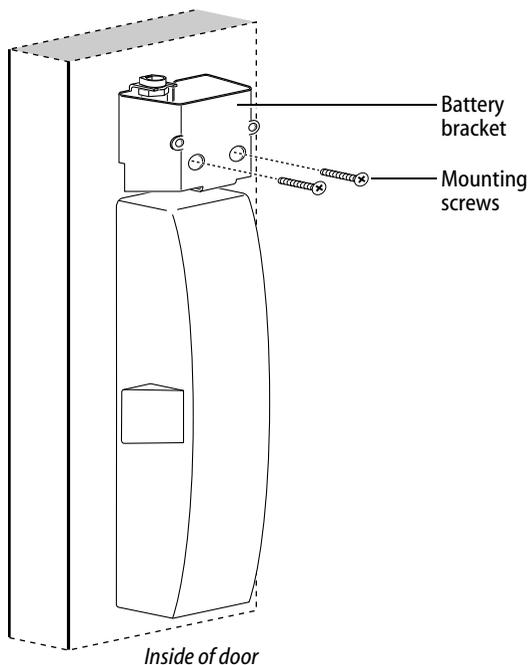

Figure 18 Installing the battery bracket on the door (B.A.S.I.S. and NT500 shown)
- 1 Position the battery bracket on the inside of the door as shown in Figure 18.